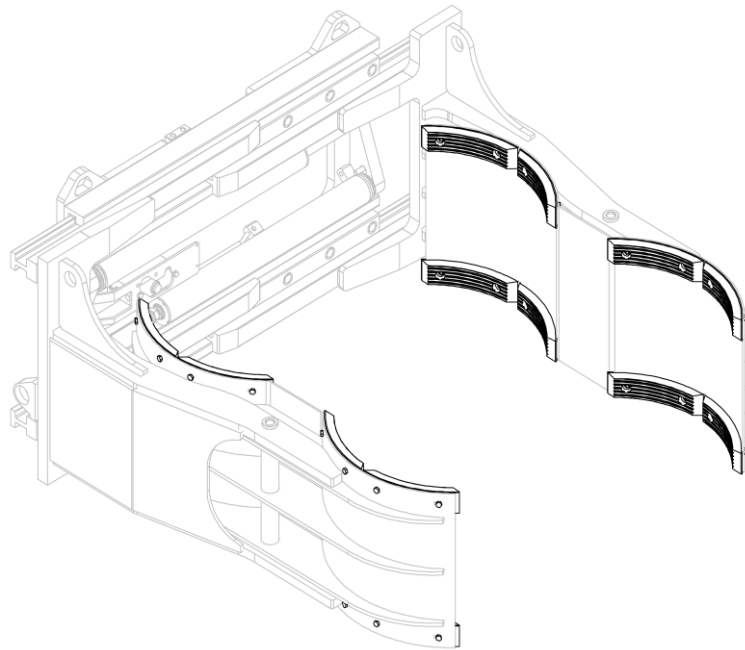
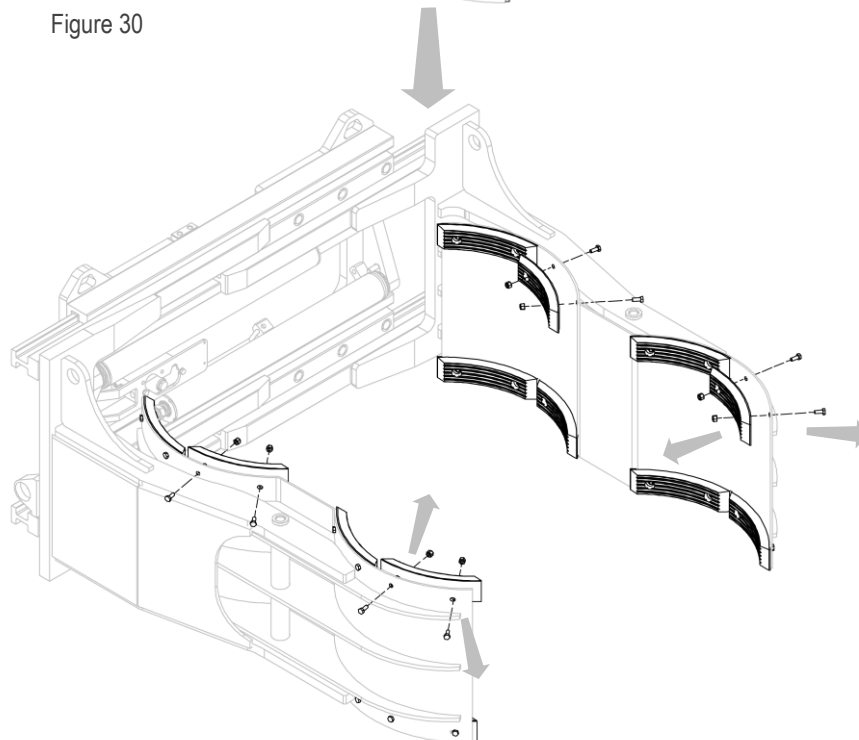

Figure 30
Figure 31
3. Remove the rubber pads after removing the associated nuts and bolts (see *Figure 30* and *Figure 31*).